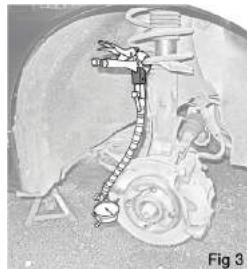

Fig 3
- Attach the DTI gauge to the mounting clamp (B) as shown. Finger tighten the clamping screw **WARNING:** Do not over tighten the screw or damage will occur to the DTI gauge.
- Using the clamping pliers, clamp and lock the assembly to a convenient suspension point or hub mounting that is close enough to allow the post (A) to be angled so the DTI gauge measuring point (J) can contact the brake disc at 90° to the face of the disc. Position the DTI so the measuring point (J) is depressed by 2 to 4mm. Fig. 3